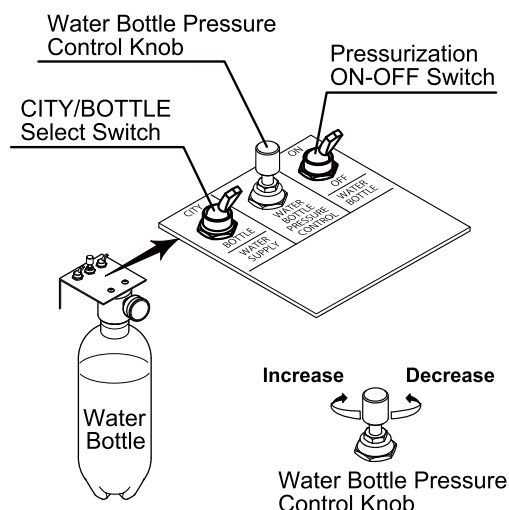
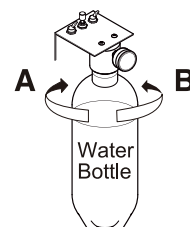

Fig.3-27 Clean Water System
Fig.3-28 Remove or Attach the bottle
(7) Clean Water System (Optional) (Fig.3-27, Fig.3-28)
- When the pressurization ON-OFF switch is set to ON, the water bottle may be used. (Fig.3-27)
The pressure increases when the knob is turned clockwise, and decreases when the knob is turned counterclockwise. (Fig.3-27)
Remove or attach the bottle (Fig.3-28)